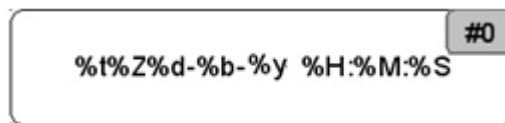
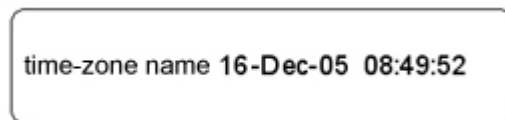

Figure 11-5-3 Time Placeholder Application
Figure 11-5-4 Display in Online Mode
- Set the visualization in the format as shown in figure 11-5-3. The result in online mode is displayed in figure 11-5-4. Display current time format: time-zone name day-month-year hour: minute: second.